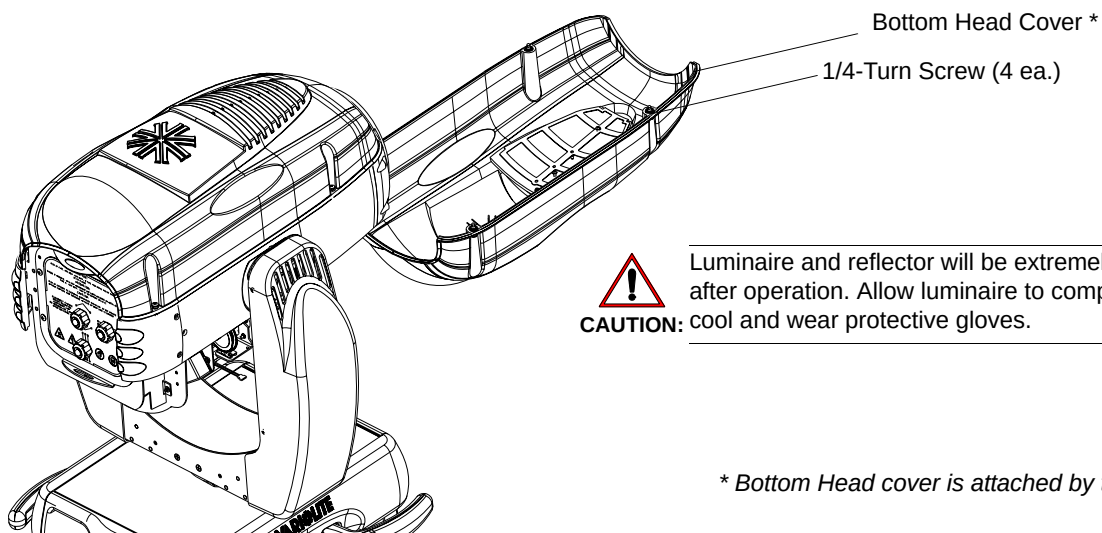

Figure A-5: Bottom Head Cover Removal
- Step 4. Remove bottom head cover by loosening four 1/4-turn screws as shown in Figure A-5.